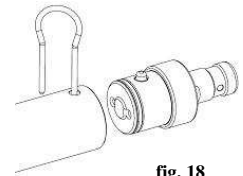

fig. 18
- With the locking device, push in the other locking bolt and pull-out the inlet part. (fig. 18)